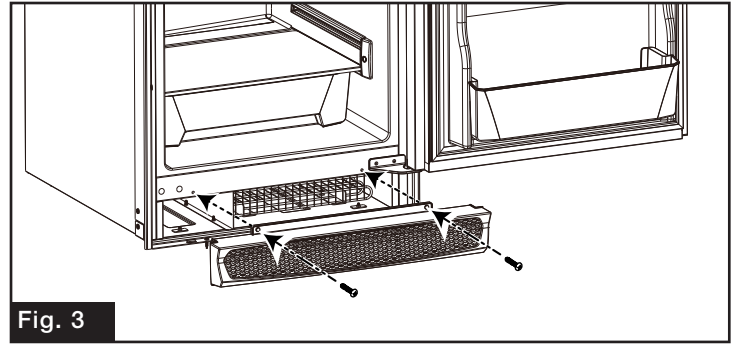

Fig. 3
3. Install the air vent and tighten the screws. (Fig. 3)